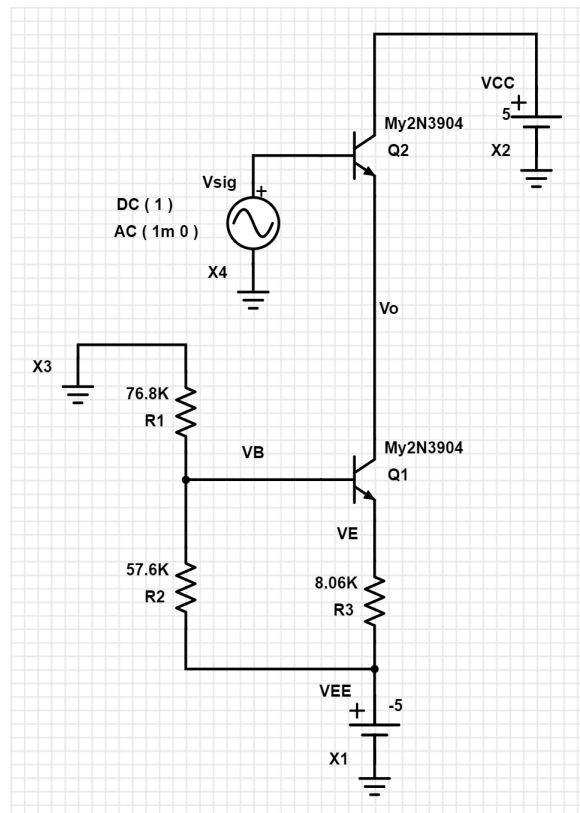
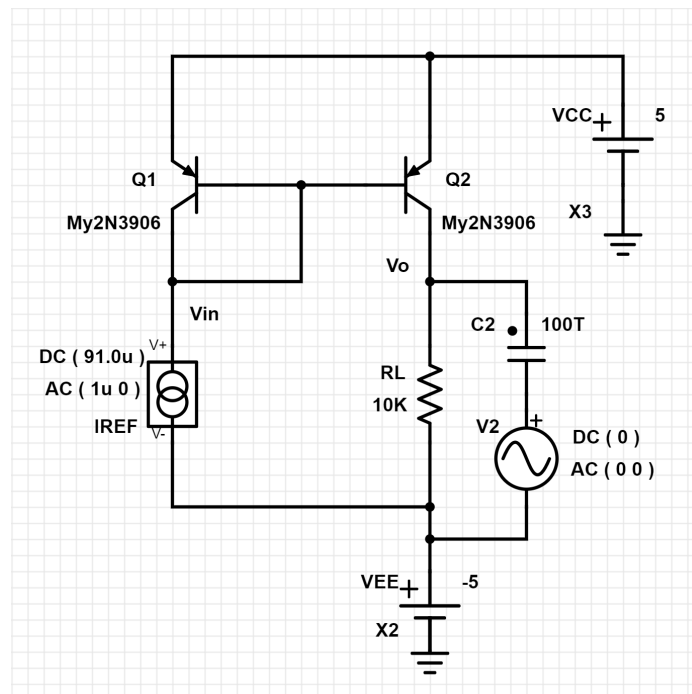
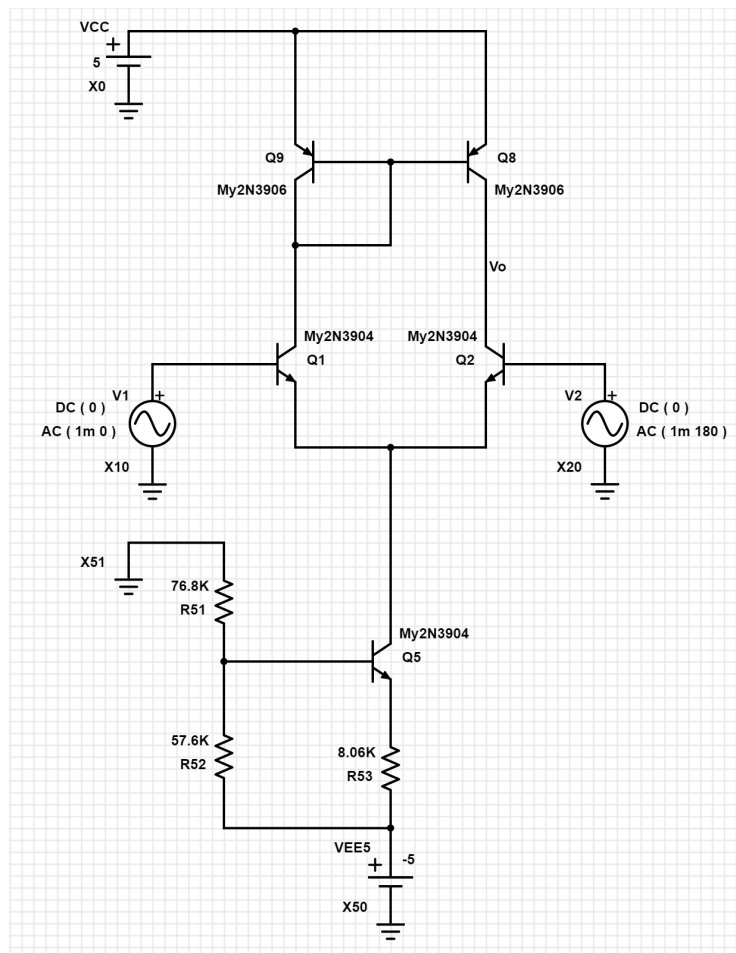

Fig. 1 Schematic diagram of the common-collector (CC) amplifier
Fig. 3 Schematic diagram of the current mirror for the AC analysis
Fig. 4 Schematic diagram of the differential amplifier with a CM load for differential-mode analysis
- 1.1 In PartSim (or LTspice), construct the CC amplifier, as shown in Fig. 1, using an NPN-BJT 2N3904 and the current sink characterized in Fig. 3. Here V_{sig} provides the required DC bias for Q_2 and the AC signal for the CC amplifier.
- 1.4 Based on Fig. 1, construct the measurement setup for the common-collector (CC) amplifier. Use $V^+ = 5\text{V}$ for V_{CC} , $V^- = -5\text{V}$ for V_{EE} , and Wavegen 1 (W1) for V_{sig} . Connect GNDV+, GNDV-, and GNDW1 to a common ground line.
- 2.4 Construct the circuit, as shown in Fig. 3, in PartSim (or LTspice). Here C_2 is a dummy bypass capacitor with 100 TF, and V_2 is a dummy AC voltage source as the port 2 stimulus used in the AC analysis.
- 3.1 In PartSim (or LTspice), construct a differential amplifier, as shown in Fig. 4, using the current mirror (CM) load characterized in Part 1.
- 3.2 **Frequency Response:** Set the DC values of V_1 and $V_2 = 0$ V, and their AC amplitude 1 mV. For the differential-mode signal, set the phases of the AC signal V_1 and V_2 to be 0° and 180° , respectively, as shown in Fig. 4. In this setting, the differential-mode signal $v_{id} = V_1 - V_2 = 1$ mV $- (-1$ mV) = 2 mV. Conduct AC analysis for V_o in DEC with Start Frequency = 100 Hz, Stop Frequency = 100 kHz, and Total Points Per Decade = 101. Choose REAL for magnitude unit and degree (DEG) for phase unit. Record the measured $|V_o|$ and $\angle V_o$ in the sheet “Step 3.2” of the Excel file “Lab 3 – Multi-Stage Amplifier.xlsx”.
- 3.4 Based on Fig. 4, construct the measurement setup for the differential amplifier with a current mirror load. **Tip:** Replace the two 8.25 k Ω resistors in Lab 2 with the current mirror.
- 3.9 **Multi-Stage Amplifier Gain:** Connect the output (the collector of Q_2 in Fig. 4) of the differential amplifier to the input (the base of Q_2 in Fig. 1) of the common-collector (CC) amplifier to form a multi-stage (or 2-stage) amplifier. Connect Scope Ch. 2 Positive (2+) to V_o (the emitter of Q_2 in Fig. 1). Run workspace script "Lab3_Step3.7.dwf3work" again with the same W2Offset value set in Step 3.7. Display the measurement results using the Scope function in WaveForms. Use Y Cursors to set their upper and lower peak values and use the Ref function to calculate the difference. Record the measured peak-to-peak amplitudes of Scope Ch. 1 Positive (1+) and Scope Ch. 2 Positive (2+) in the sheet "Step 3.9" of the Excel file "Lab 3 – Multi-Stage Amplifier.xlsx" to calculate the differential-mode voltage gain A_{vd} in dB. Copy and paste the screenshot of the measurement results to replace the one in the sheet "Step3.9" of the Excel file "Lab 3 – Multi-Stage Amplifier.xlsx" to support your calculation. Make sure to capture the date and time of your PC in the screenshot.